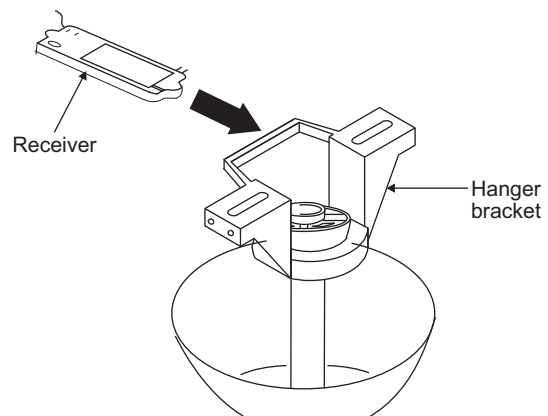

Figure 11
**Step 1.** (Figure 11) Insert the receiver into the mounting bracket with the flat side of the receiver facing the ceiling.